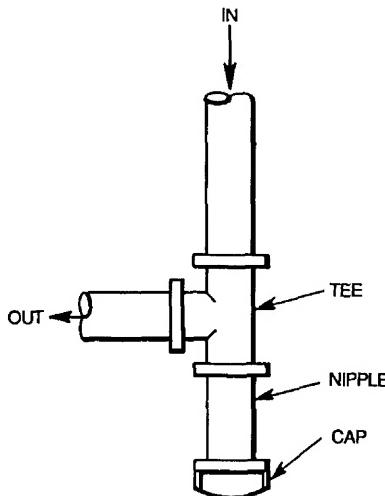

Fig. 7 – Sediment Trap
4. Install sediment trap in riser leading to heating section. This drip leg functions as a trap for dirt and condensate. Install trap where condensate cannot freeze. Install this sediment trap by connecting a piping tee to riser leading to heating section, so that straight-through section of tee is vertical. See Fig. 7. Then, connect capped nipple into lower end of tee. Extend capped nipple below level of gas controls.